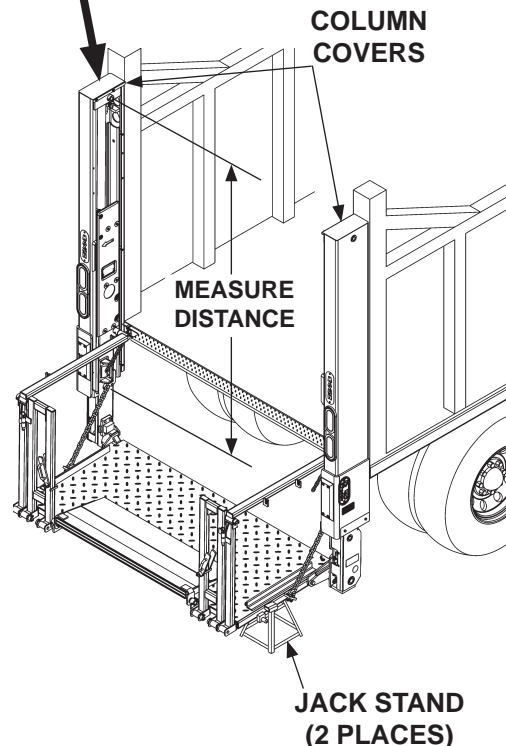

FIG. 22-1
1. Raise the open platform about 20" above the ground. Then, place jack stands under the platform (**FIG. 22-1**) for support. Measure and record the distance between the centers of upper and lower cylinder pins. Keep measurement for reference when installing new cylinder.